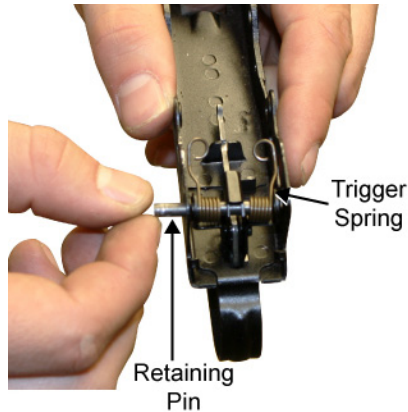

Figure 11. Installing a Retaining Pin through the Trigger Spring and Trigger Assembly.
3. Install a retaining pin through the trigger spring and trigger assembly within the trigger housing. Use a hammer and punch if necessary. Refer to Figure 11.